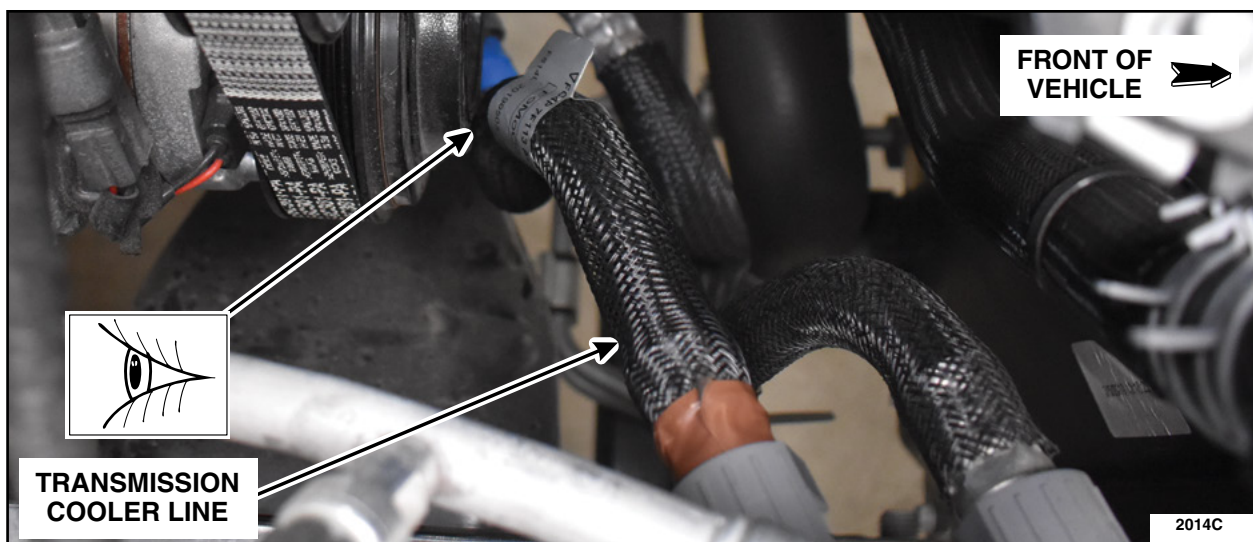

FIGURE 3
4. Inspect the line for damage. A transmission cooler line not in correct orientation may show signs of damage or rubbing from the A/C compressor pulley. See Figure 3. Does the transmission cooler line show signs of damage or rubbing?